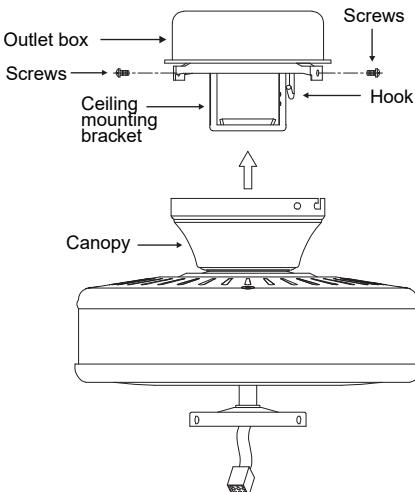

Fig. 13
**Step 3.** Make sure all four mounting screws are tight. (**Fig. 13**)